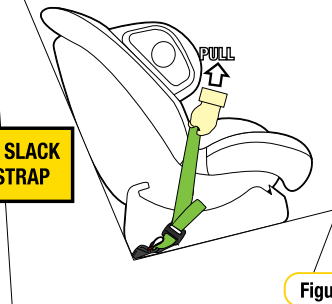

Figure 5
Step 5: Hook the attachment clip to the anchor fitting. **Ensure there are no twists in the top tether strap** (refer to Figure 5).